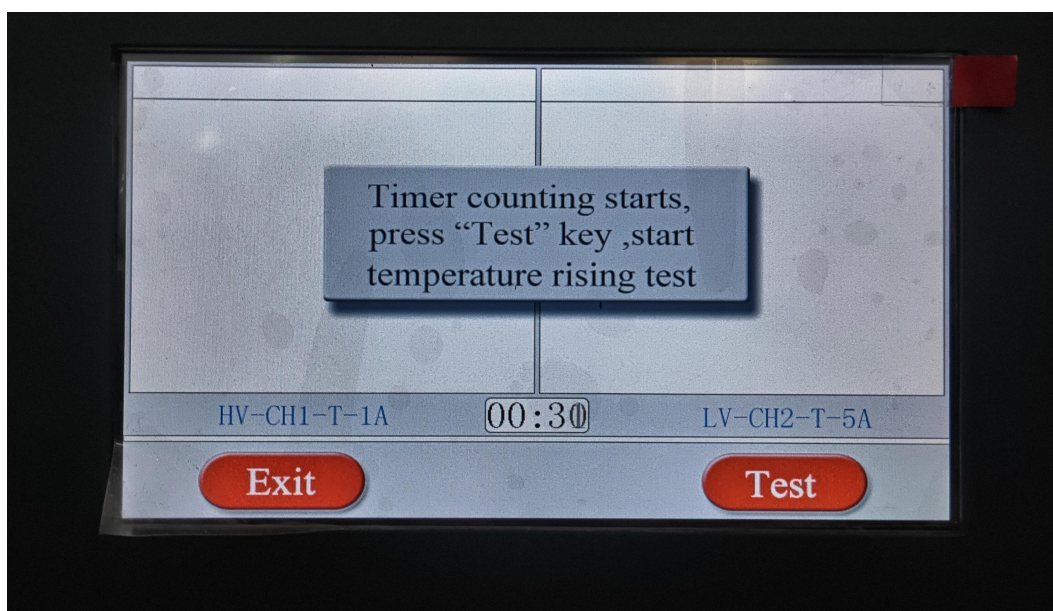

Figure 8 (Temperature rise timing interface)
- 4. Temperature rise testing:** After the channel and corresponding current are selected at temperature rise mode, touch the **“Timing”** key to start temperature rise timing, (shown as figure 8) now timing starts and wait to test. When timing is exited, touch the **“Exit”** key to complete timing process, and return back to the selection setting